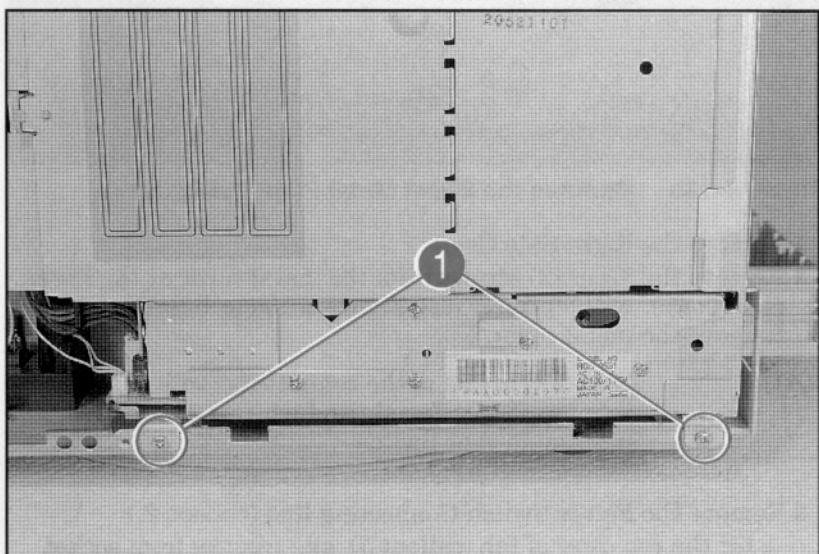

Figure 6-14 Power Supply Screws
- 4 Remove the (2) screws from the bottom frame (see Figure 6-14, callout 1).